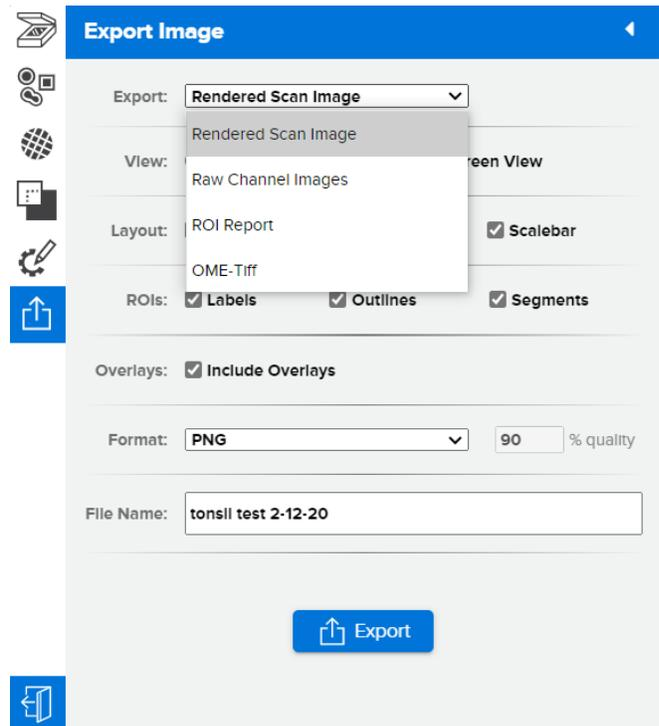

Figure 49: Export image menu - rendered scan
2. The default view is **Rendered Scan Image** (Figure 49); choose this for a full-color publication-quality image.